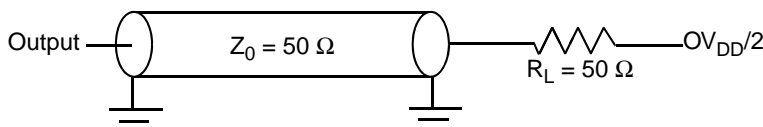

Figure 22. Local Bus C Test Load
- All outputs are measured from the midpoint voltage of the falling/rising edge of t_{CLK} to the midpoint of the signal in question. The output timings are measured at the pins. All output timings assume a purely resistive 50- Ω load (see Figure 22). Time-of-flight delays must be added for trace lengths, vias, and connectors in the system.
- The symbols used for timing specifications herein follow the pattern of $t_{\text{(first two letters of functional block)(signal)(state)(reference)(state)}}$ for inputs and $t_{\text{(first two letters of functional block)(reference)(state)(signal)(state)}}$ for outputs. For example, t_{JTDVKH} symbolizes JTAG device timing (JT) with respect to the time data input signals (D) reaching the valid state (V) relative to the t_{JTG} clock reference (K) going to the high (H) state or setup time. Also, t_{JTDXKH} symbolizes JTAG timing (JT) with respect to the time data input signals (D) went invalid (X) relative to the t_{JTG} clock reference (K) going to the high (H) state. Note that, in general, the clock reference symbol representation is based on three letters representing the clock of a particular functional. For rise and fall times, the latter convention is used with the appropriate letter: R (rise) or F (fall).